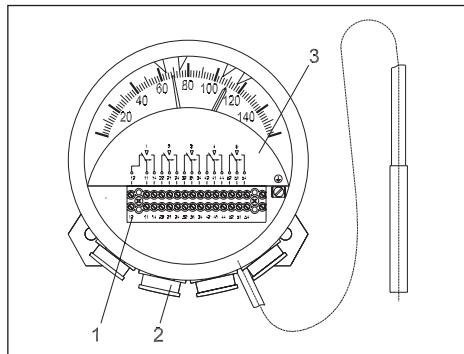

Fig. 3
4.1 Connecting the microswitches (Fig. 3)
the cable glands provided loosely to the incoming cables and housing. This must be done as shown in the appendix Fig. 8. Pay close attention to cable gland assembly and ensure that the seal is properly fitted to avoid any water ingress. Connect the incoming wiring to the terminal strip (Fig. 3/1) in accordance with the connection diagram (Fig. 3/3) printed on the cover plate.